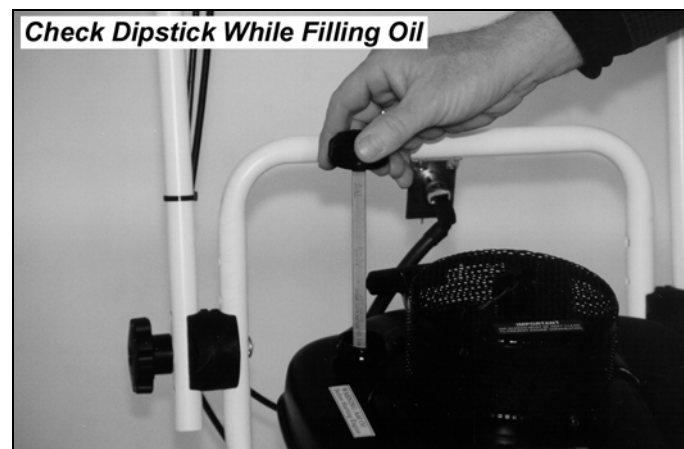

Figure 2
1. Use SAE30 High Detergent oil. Add approximately 15 ounces of oil and wait one minute for the oil to settle. Check the dipstick, then continue adding small amounts of oil and rechecking the dipstick until it reaches the full mark (*Figure 2*). Do not overfill.